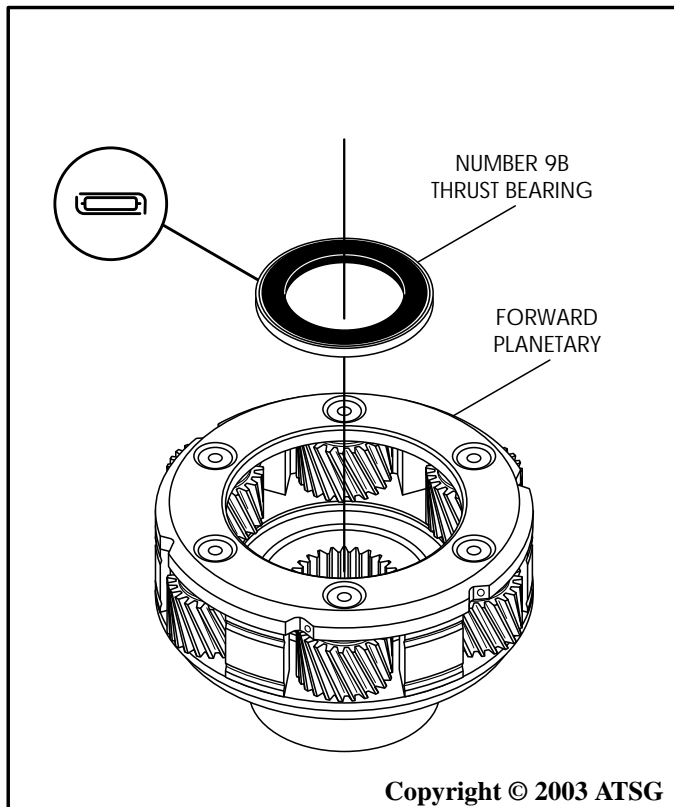

Figure 128
8. Turn the planetary carrier over and install the number 9B thrust bearing into the planetary carrier in the direction shown in Figure 128.